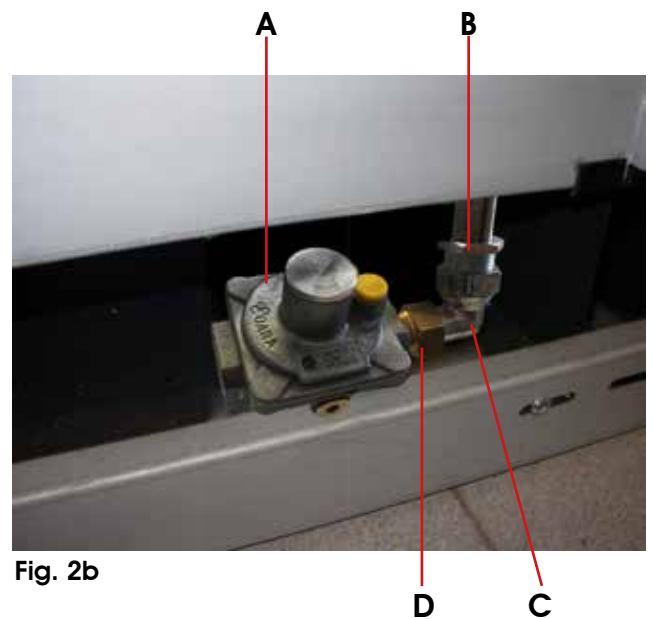

Fig. 2b
- As show in fig.2b, screw "A" + "D" + "C" part into "B" part.